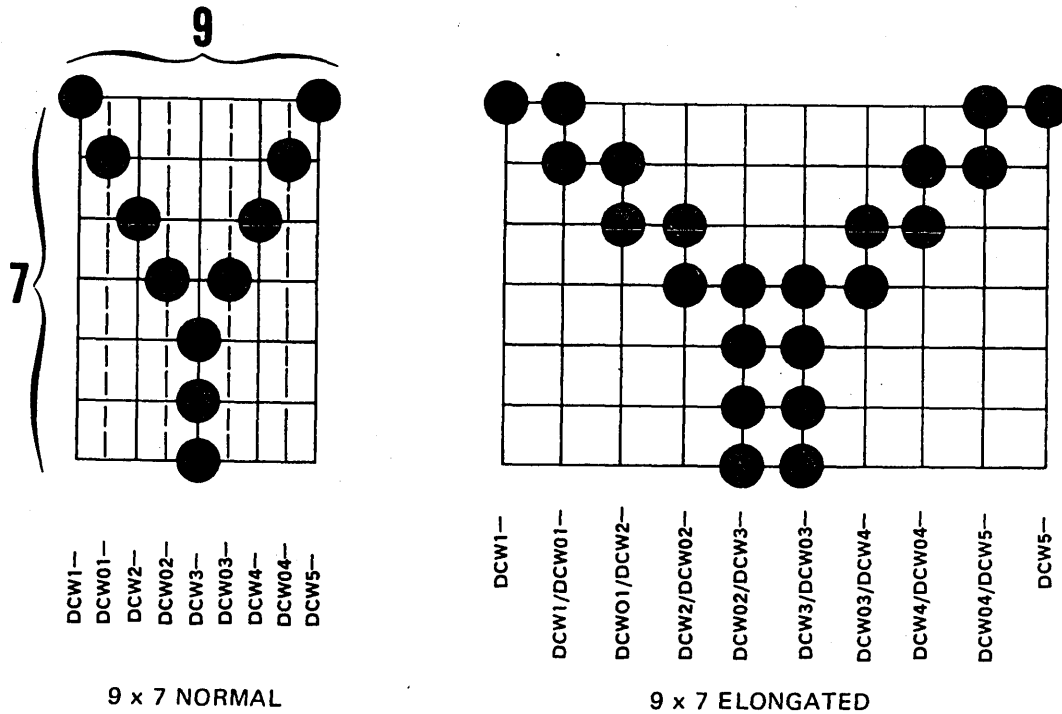

Figure 4-17. NORMAL AND ELONGATED CHARACTERS
For elongated character printing, ROME2 is coincident with each STROBE signal. This combined with the fact that the DCW timing signals are twice as long during elongated character mode, causes the printed character to be twice as wide as a normal character. An example of the character (Y), both in normal and elongated style, is shown in Figure 4-17.